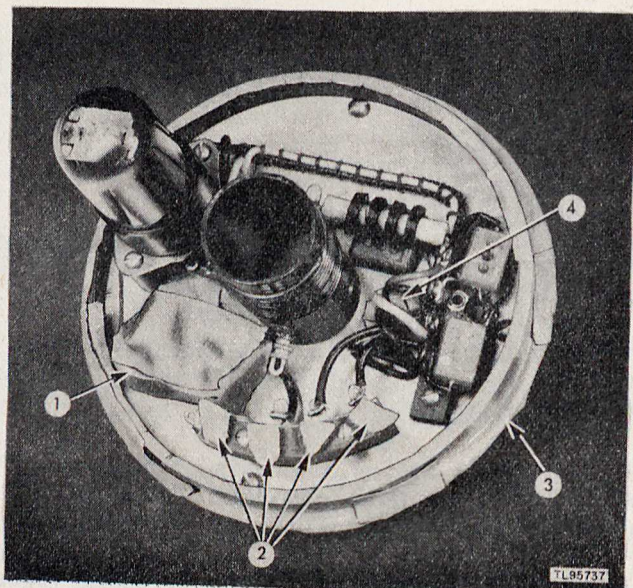

Figure 22. Transmitter chamber cover, masking details.
1. Mask the tuning capacitor (fig. 22 (1)).
2. Mask the contacts of the bakelite contact strip (fig. 22 (2)).
4. Mask the engaging grooves and the chamber contacting surface around the rim of the cover (fig. 22 (3)).
5. Mask the rubber grommet (fig. 22 (4)).